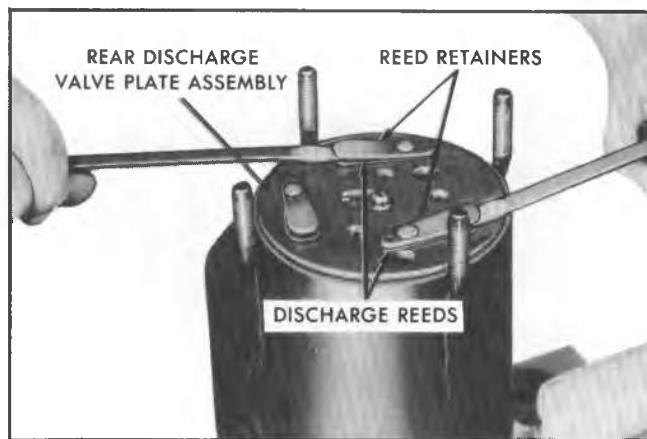

Fig. 26--Removing Rear Discharge Valve Plate
9. Carefully remove rear discharge valve plate assembly. Use two small screwdrivers under reed retainers to pry up on assembly (Fig. 26). **Do not position screwdrivers between reeds and reed seats.**